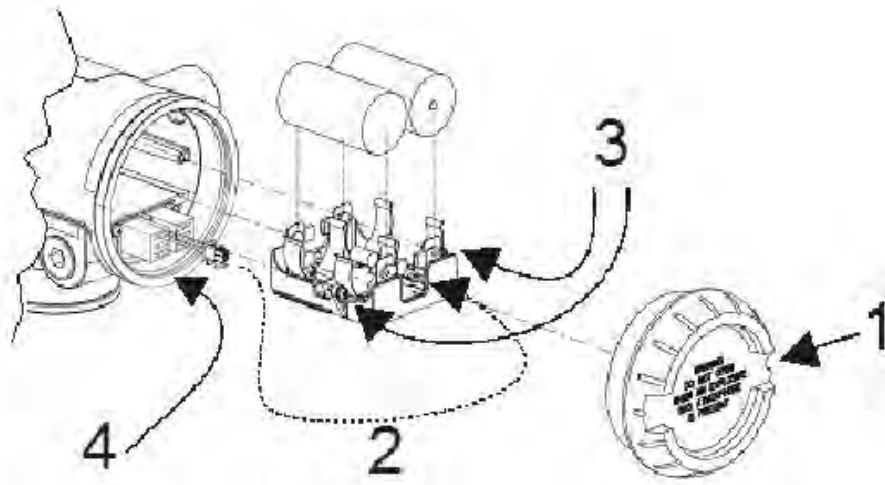

Figure 12 Terminal board replacement
2	Loosen the M3 locking set screw on the battery end-cap (opposite end from display). See item 1 in Figure 12. Unscrew and remove the end cap.
3	Using thumb and forefinger, squeeze the battery connector at top and bottom to disengage the locking mechanism, then pull to disconnect. See item 2 in Figure 12.
4	Loosen the two battery holder retaining screws (closest to the batteries). See item 3 in Figure 12. The screws are captive.
| 7 | Remove and save the 3 screws that attach the terminal board to the housing. Take care because these screws are not captive. See item 4 in Figure 12. |